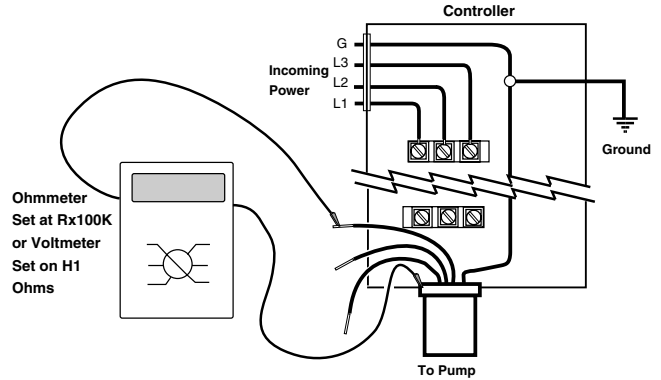

Figure 6: Ground Check
## Ground Check (Figure 6)
4. Bolt the Suction Bracket (Key No. 24) to the Assembly Fixture (See Figure 6 for Fixture specifications). Make sure that the Shaft Assembly is correctly aligned and is down solidly on the Fixture.